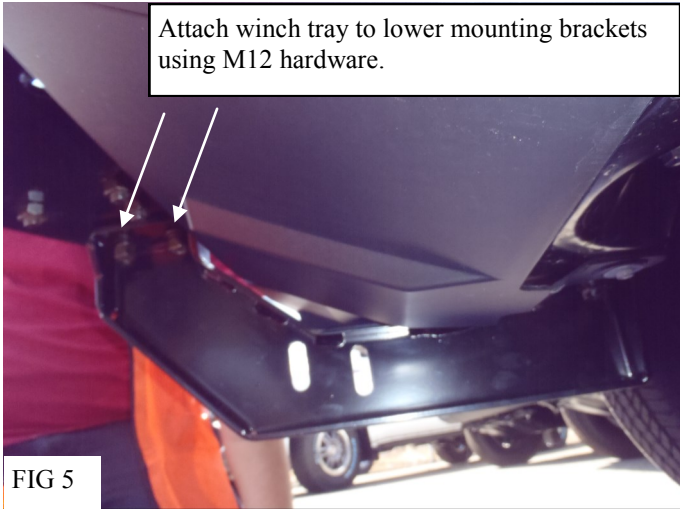

FIG 5
6. With assistance take the winch tray and align it with the lower mounting brackets. Attach the winch tray to the lower mounting brackets using (4) M12 button head bolts, (8) M12 flat washers, (4) M12 lock washers, and (6) M12 hex nuts. FIG 5. Do not fully tighten at this time.
7. Locate the drivers side upper support strap and place it through the opening in the plastic valance and attach it to the upper mounting bracket using (2) M10 hex head bolts, (2) M10 flat washers, and (2) M10 serrated flange nuts. Do not fully tighten at this time. Repeat this step for the passenger side FIG 5. Using a closed end 14mm wrench to hold the nuts will aid in installation. NOTE: 2010-up vehicles may require minor trimming to the valance opening.